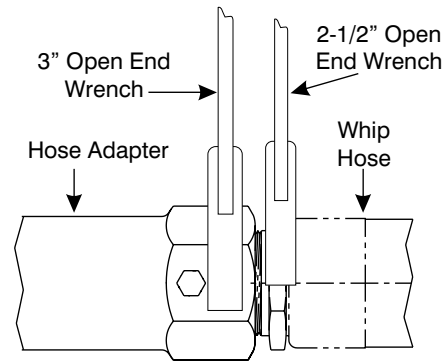

Figure 9-26. Tighten Whip Hose securely in the Hose Adapter.
6. Tighten the Whip Hose (14) securely into the Hose Adapter (15) as shown in Figure 9-26.
- a. Hold the Hose Adapter (15) across its flats with a 3-inch open end wrench.
- b. Use a 2-1/2-inch open-end to tighten the Whip Hose (14) securely into the Hose Adapter (15).